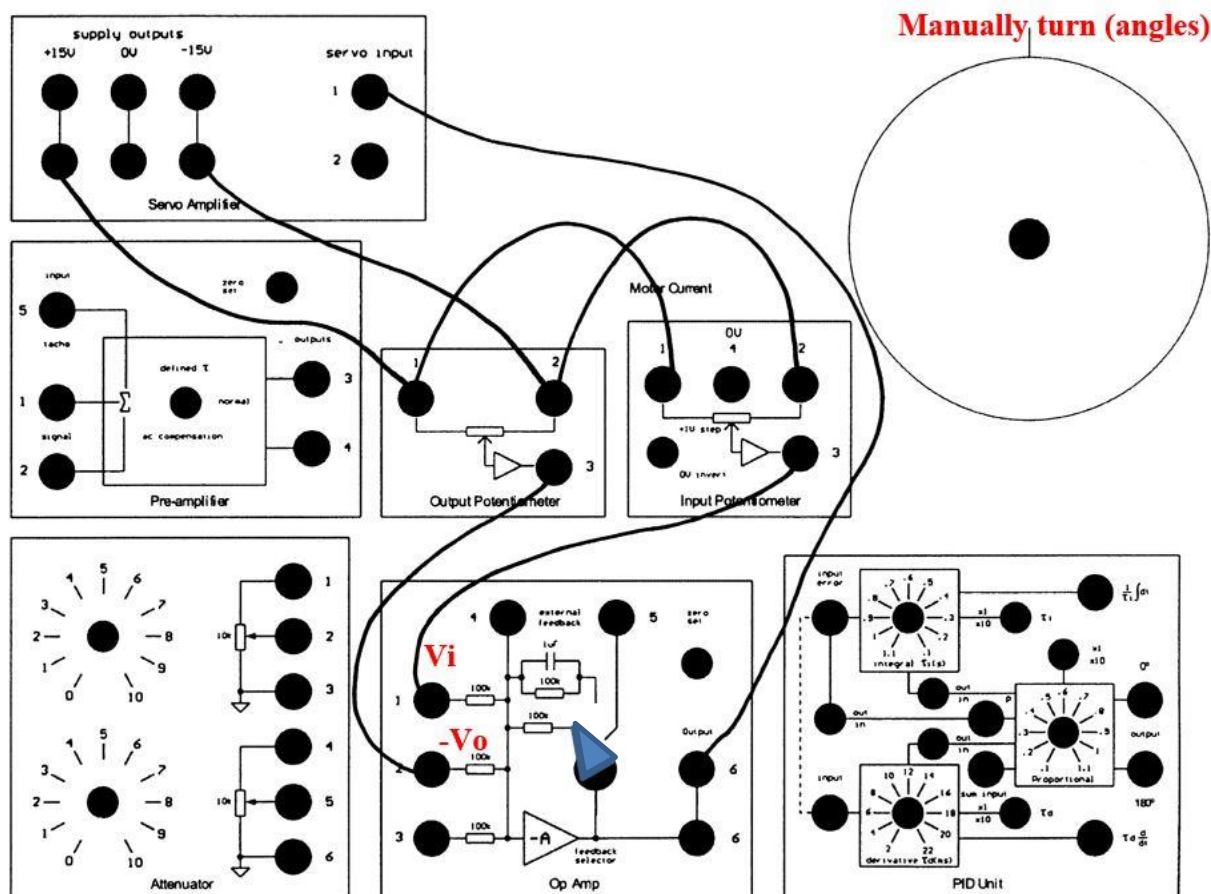

Figure 3.2
- Connect the devices as shown in Figure 3.2. The input potentiometer is set by the dial in the top right corner. The output potentiometer is utilized as sensor for motor positions.